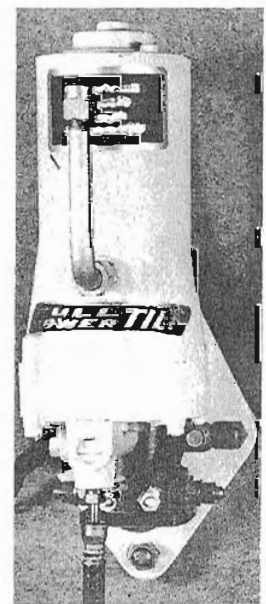

Figure 10. High Pressure Pump
2. High Pressure Pump - Systems which have a high pressure pump, as shown in Figure 10, require Type "A" transmission oil.